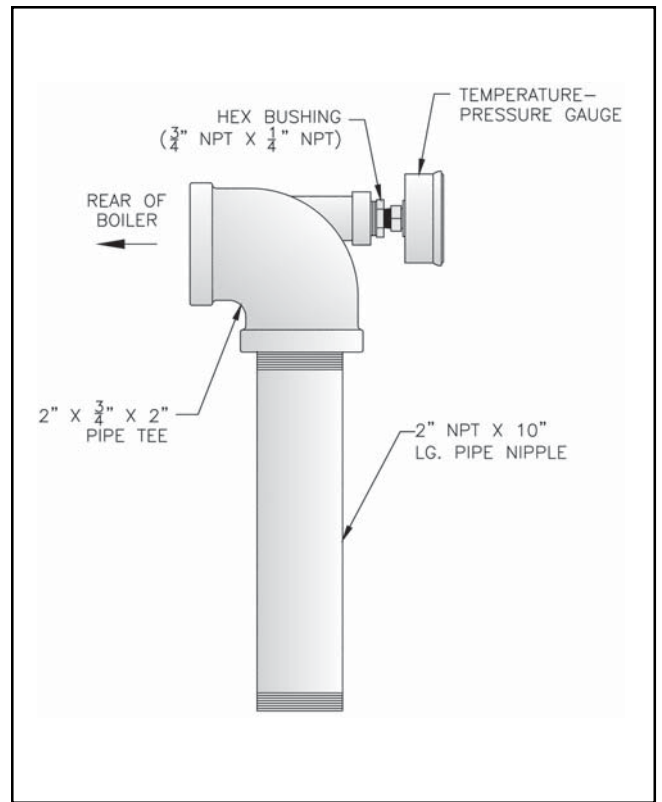

Figure 23: Alternate Temperature-Pressure Gauge Installation
2. Alternate Temperature-Pressure Gauge Piping. See Figure 23.